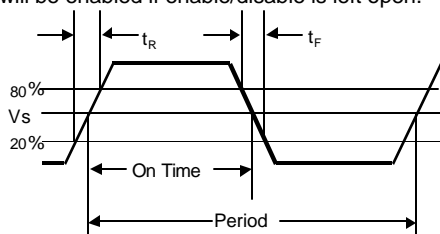
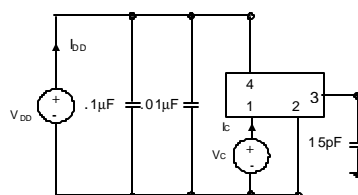

Figure 5. Output Waveform
Figure 6. Typical Output Test Conditions (25±5°C)
2. Figure 5 defines these parameters. Figure 6 illustrates the operating conditions under which these parameters are tested and specified.